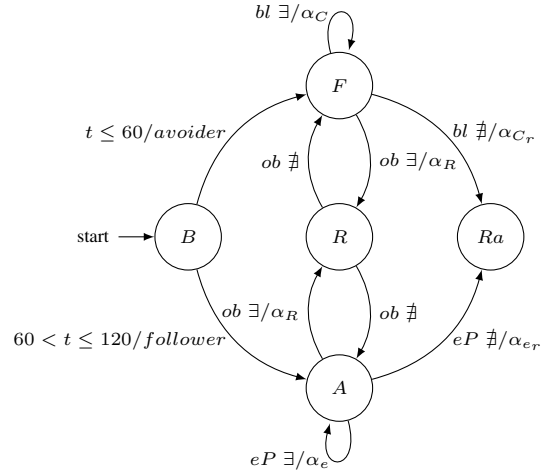

Fig. 1: Mealy DFSM of the controller
The DFSM diagram in Fig. 1 which is defined by the (1) starts in the Behaviour state where the robot is set as *avoider* while the time simulation is  $t \leq 60[s]$ . During that time, the Foraging state looks for the green blobs with the Search blob/ePuck algorithm while avoiding obstacles using the Rebound algorithm. Moreover, a Random Movement state is used to introduce randomness to the system so the agent can take different paths if there is no blob or obstacle detection. For  $60 < t \leq 120$ , the Behaviour of the robot is set to *follower* and switches to Random Aggregation state where it uses both algorithms, the Rebound to follow ePucks with the proximity sensors and the Search to look for the closest ePuck wheels. For both algorithms, the output is the angle of attack  $\alpha_n$ , where  $n$  depends on the current state.